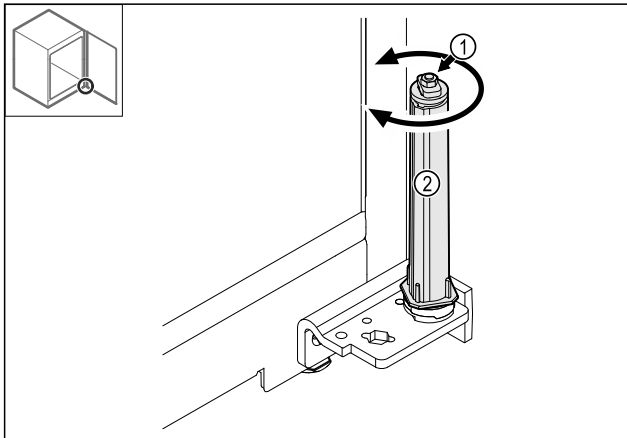

Fig. 36
- ▶ Do not dismantle the screw connection Fig. 36 (1) on the locking system.
- ▶ Turn the locking system Fig. 36 (2) until it clicks.